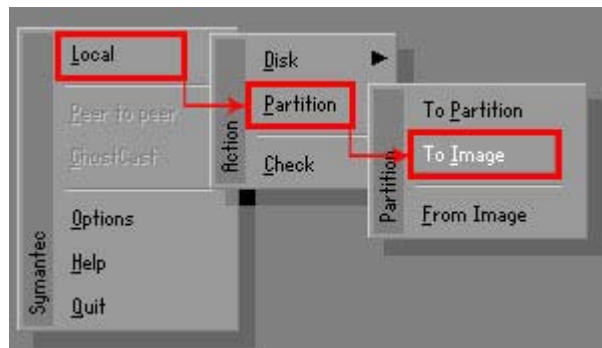

Figure C-13: Symantec Ghost Path
Step 4: Use mouse to navigate to the option shown below (**Figure C-13**).